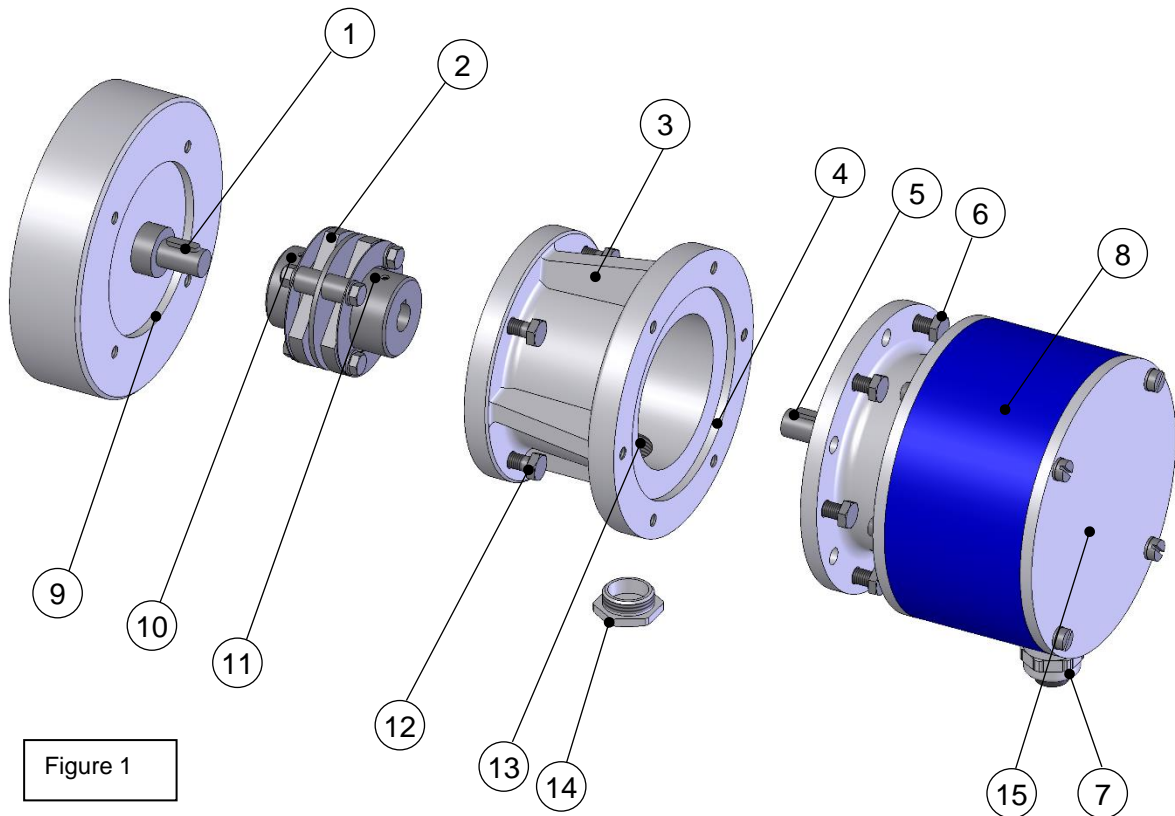

Figure 1
1. Open the terminal box cover (15, Fig.1).
2. Remove the cap of the cable glands (17, Fig.1).